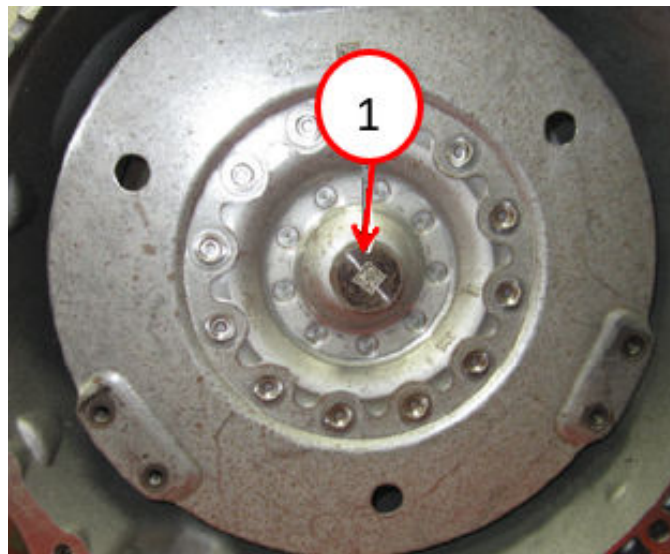

Fig. 55
- 85. Install the torque converter Fig. 55 (Refer to 21 - Transmission and Transfer Case/Automatic/Torque Converter/ Installation).